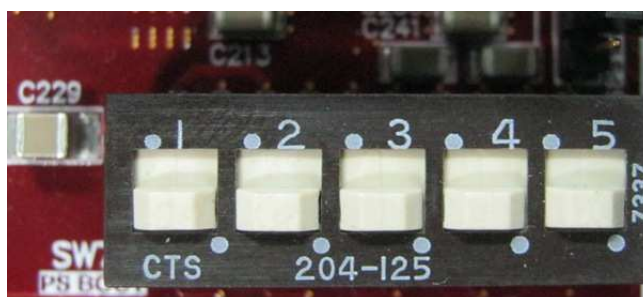

Figure 2-3 SW7 setting to configure PS from JTAG on Zynq Mini-ITX
- i. Set SW7="00000" to configure PS from JTAG, as shown in Figure 2-3.